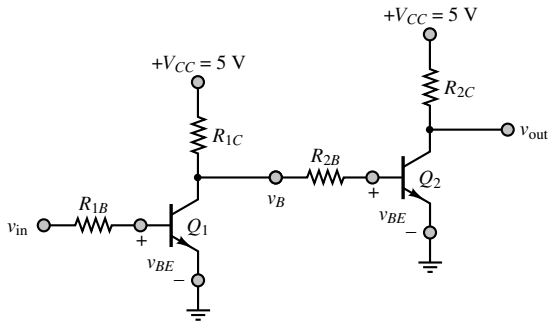

Figure P10.46
10.46 Figure P10.46 shows a circuit with two transistor inverters connected in series, where $R_{1C} = R_{2C} = 10 \text{ k}\Omega$ and $R_{1B} = R_{2B} = 27 \text{ k}\Omega$.